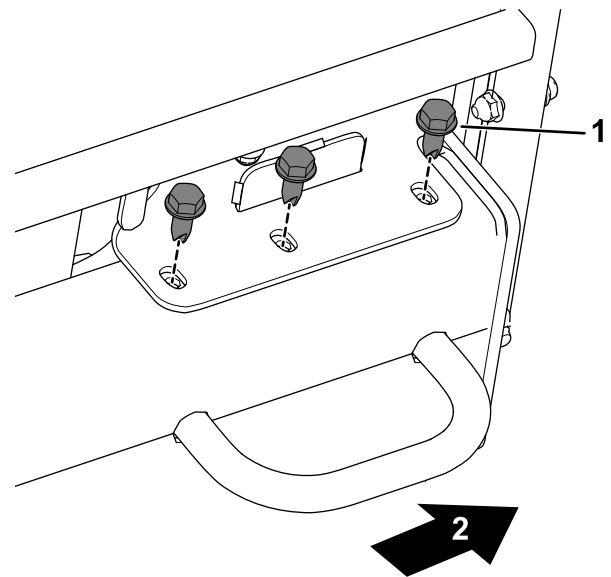

Figure 4
- Remove the bolts from the frame rail on each side of the machine (Figure 4).